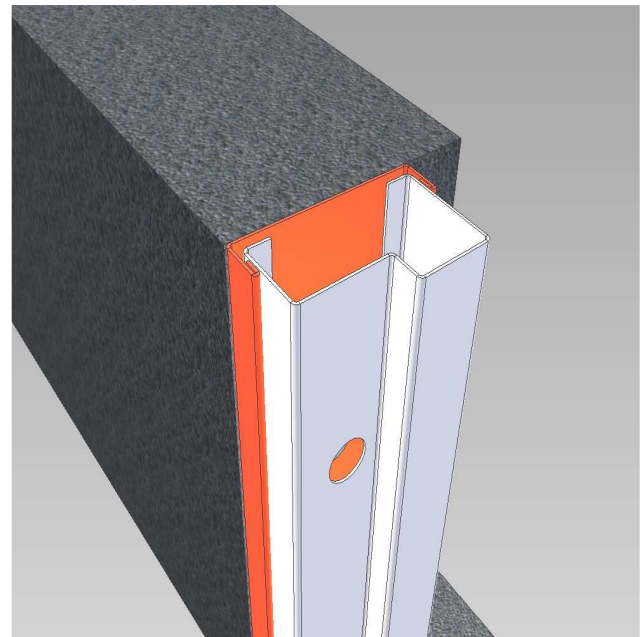

Fig 4
- Frame with Capping Channels, Fig 4